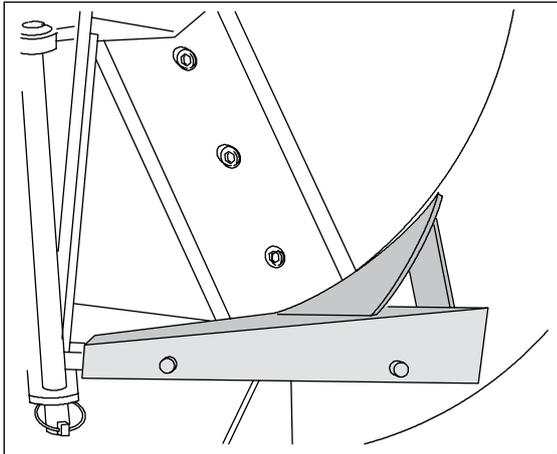

Fig. 2. Installing the fitting block
1. The hydraulic feeder and mechanical feeders include fitting blocks that are installed between the chipper and feeder. The fitting blocks are installed so that the two guide pins located at the bottom section of the feed opening go through the holes in the fitting block and secure the block. See Fig. 2.